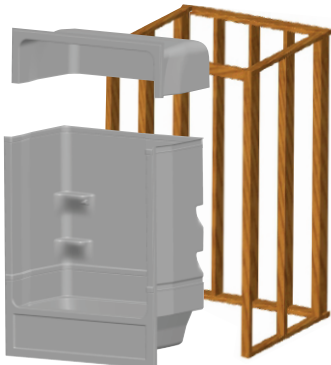

FIGURE 7
4. Next, snap position the middle section carefully into the tub section. See Figures 7, 8 & 9.